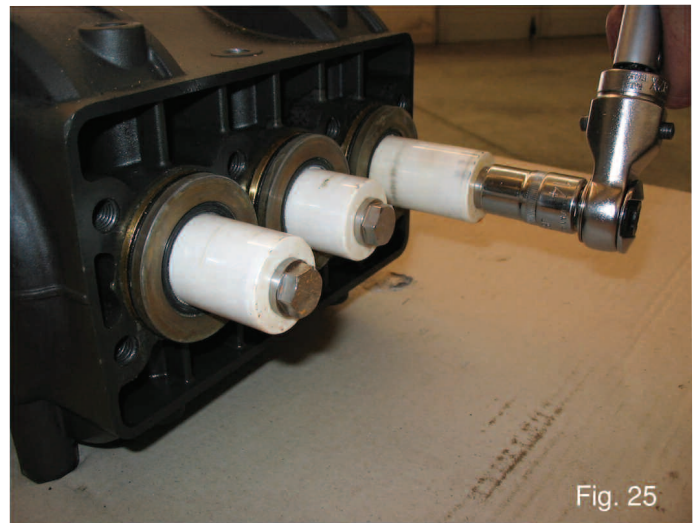

Fig. 25
- A) Loosen and remove the plunger screw (1, Fig. 25).